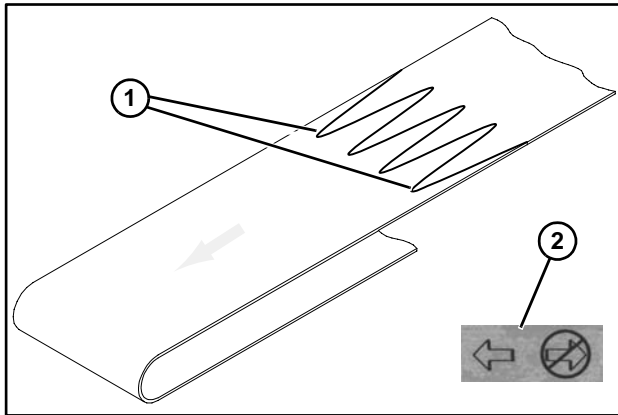

**Figure 21**
9. Remove belt (**Figure 21, item 1**) from conveyor.